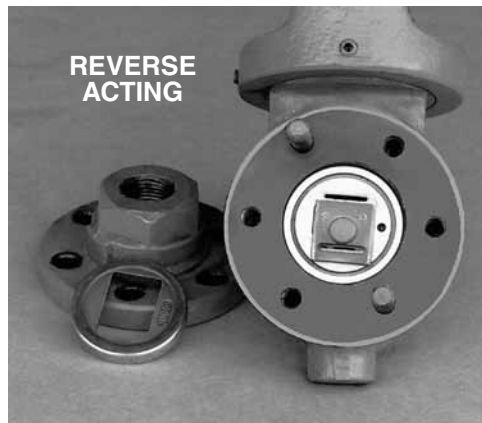

Figure 39
If the hole in the valve plate is to the left and the slot in the valve disc is on the top this valve is set for Direct Acting (see figure 38). To change the action of the valve to Reverse Acting simply rotate the valve plate and the valve disc 180° so that the hole on the plate is on the right and the slot on the disk is at the bottom (see figure 39).
- Install the valve-plate and valve-disk for reverse action (see figure 39).